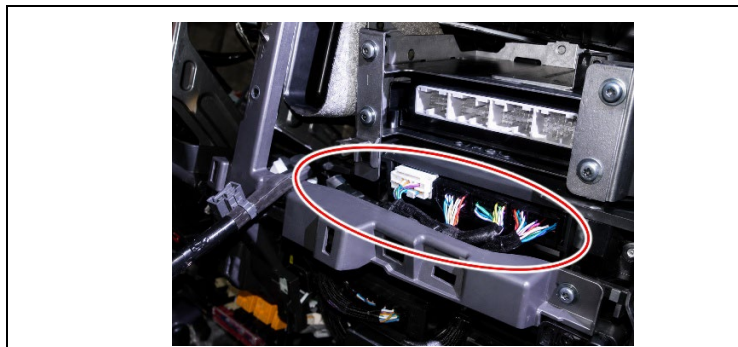

Figure 50
51. Tuck the BCM harness under the instrument panel as shown. (See Figure 50.)